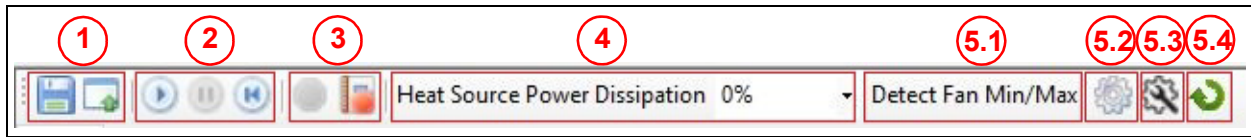
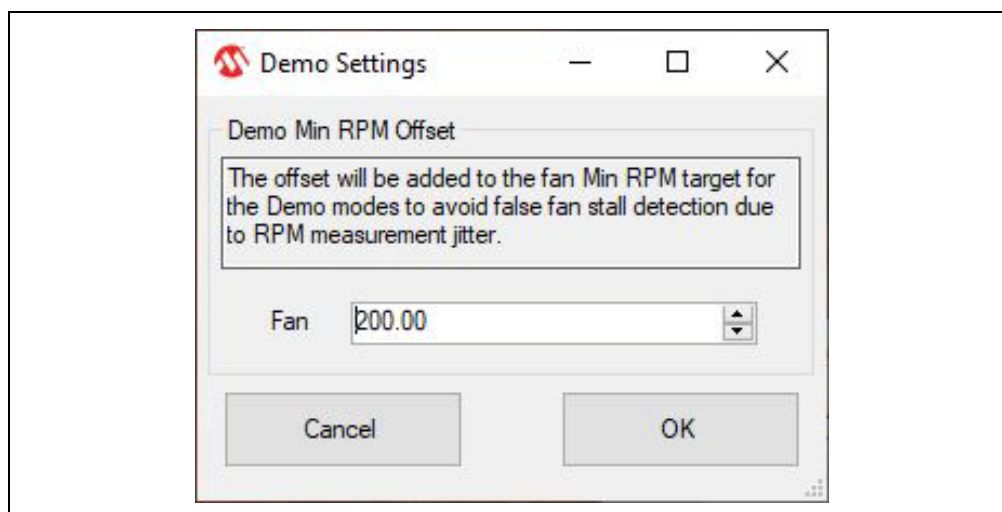
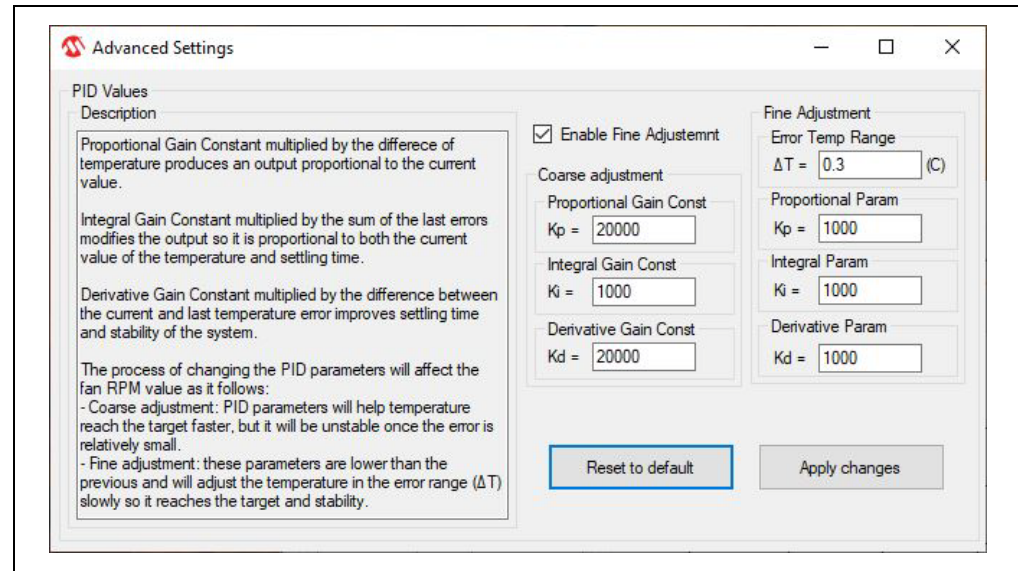

FIGURE 3-3: Control Toolbar Section.
FIGURE 3-5: Demo Settings Dialog Box.
FIGURE 3-6: Advanced Settings Dialog Box.
The Save/Load Settings section is noted in Figure 3-3 with the number **1**. This section allows the saving of all the currently configured GUI settings. The settings are stored in a `file.bin` file and can be reloaded to reconfigure the board. The loading process repopulates all the available fields and writes the settings into the connected ADM00902 Demonstration Board. This process takes up to 30 seconds to complete.
The Data Acquisition section (marked in Figure 3-3 with the number **2**) provides controls for starting, stopping and resetting the chart data.
The Temperature Related Options section is marked in Figure 3-3 with the number 4.
The **Demo RPM Offset** button (marked as **5.2** in Figure 3-3) opens a dialog box (Figure 3-5) in which the Min RPM offset values can be configured. This relates only to the fan control algorithm implemented in software for the demo application example. For the Auto and Constant Demo modes, the algorithm uses a minimum RPM target that consists of the minimum RPM value, specified in the **Fan Configuration** tab (Figure 3-19, number **4**), summed with the offset value.
The **Advanced Settings** button (marked as 5.3 in Figure 3-3) opens a dialog box (Figure 3-6) where the PID values can be adjusted. This relates only to the target RPM adjustment algorithm implemented in software for the demo application example. It is used for the Auto and Constant Demo modes as the RPM value must adjust in order to either reach the target temperature established as a parameter in the two modes, or keep it constant, depending on which mode is used.
The **Update** button (marked as 5.4 in Figure 3-3) refreshes the GUI fields with the values read from the chip.
- When the temperature exceeds the maximum value, the fan speed is adjusted in order to keep the temperature at the maximum limit, with a hysteresis of $\pm 0.3^{\circ}\text{C}$ value, which can be modified from the Advanced Settings menu (Figure 3-6). This outcome is dependent on the cooling solution (appropriate heat sink to dissipate the heat).
- When the temperature exceeds the target value, the fan speed is adjusted, in order to keep the temperature at the target limit, with a hysteresis of $\pm 0.3^{\circ}\text{C}$ value, which can be modified from the Advanced Settings menu (Figure 3-6). This outcome is dependent on the cooling solution (appropriate heat sink to dissipate the heat).